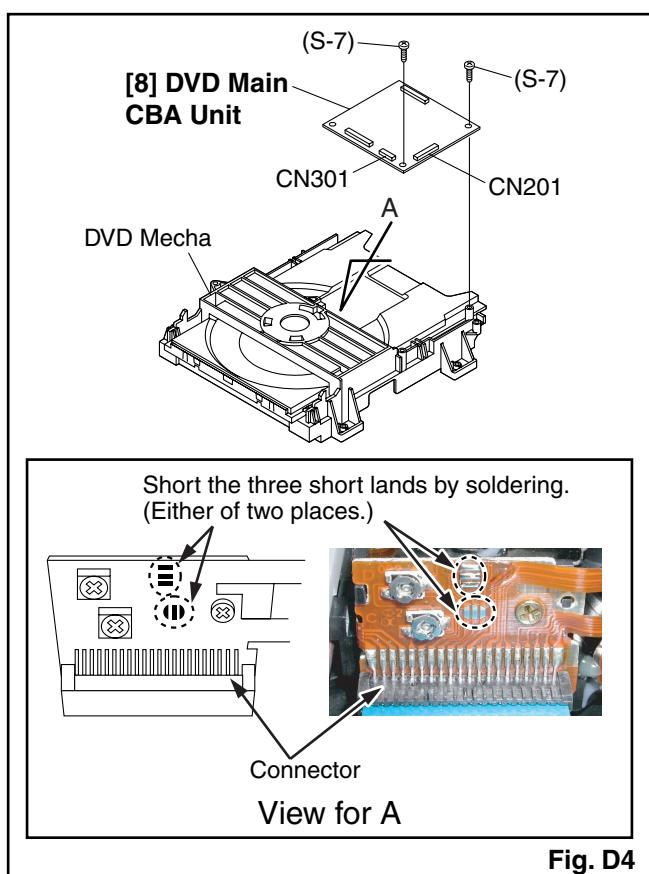

Fig. D4
- 2-1. Disconnect Connector (CN301). Remove two Screws (S-7) and lift the DVD Main CBA Unit. (Fig. D4)
- 2-2. Short the three short lands of FPC cable with solder before removing the FFC cable (CN201) from it. If you disconnect the FFC cable (CN201), the laser diode of pickup will be destroyed. (Fig. D4)
CAUTION 3: When reassembling, confirm the FFC cable (CN201) is connected completely. Then remove the solder from the three short lands of FPC cable. (Fig. D4)